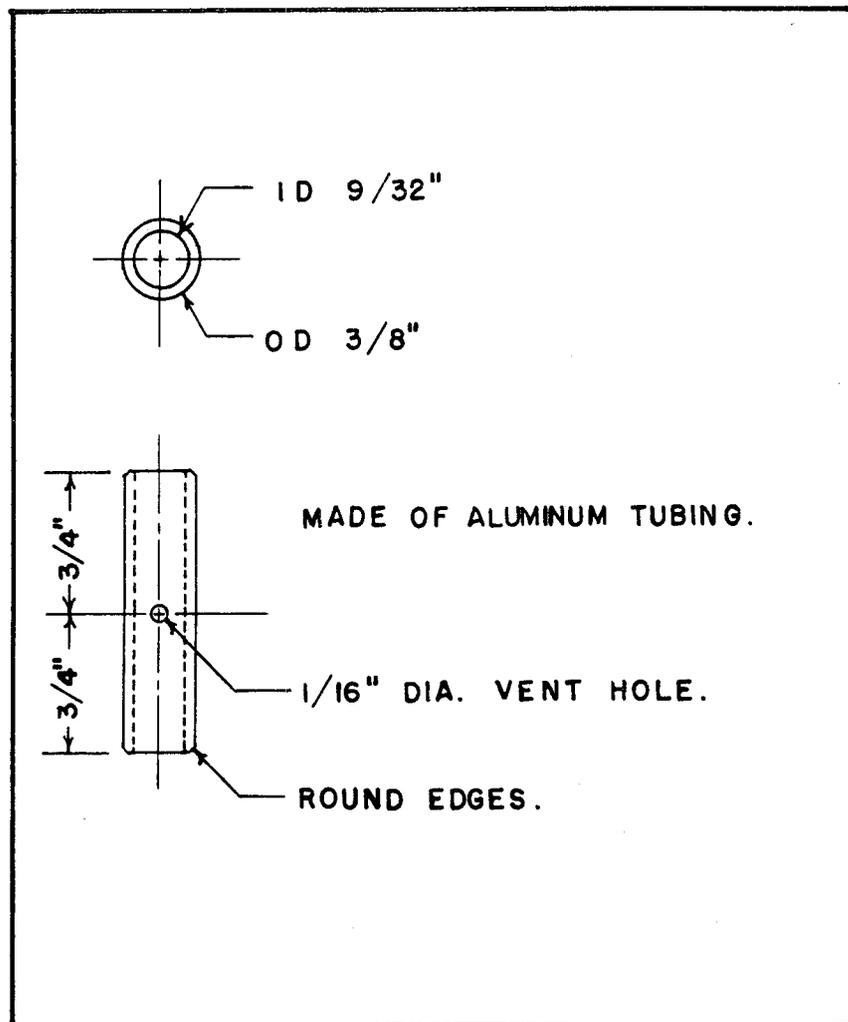

Figure 2.--Details of oleoresin collecting spout.
2. One spout. These can be easily made with aluminum tubing from specifications in figure 2.
3. One connector. These are made from 1/4-inch (ID) black rubber tubing cut into 1-inch lengths.